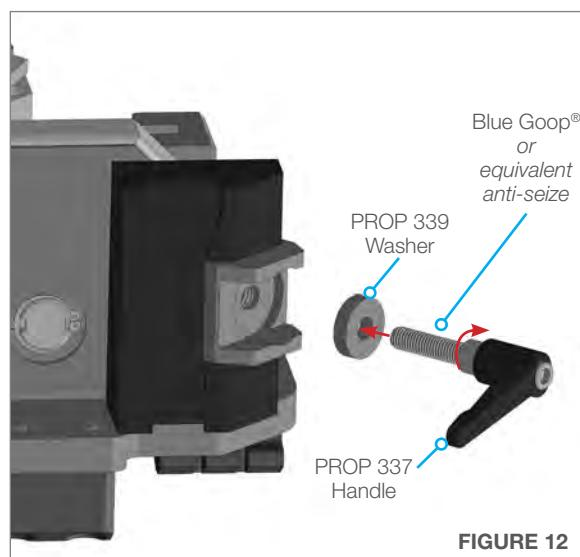

FIGURE 12
3. Install the PROP 339 Washer with PROP 337 Handle by hand screwing it into the clamp block until it is tight. (Figure 12)